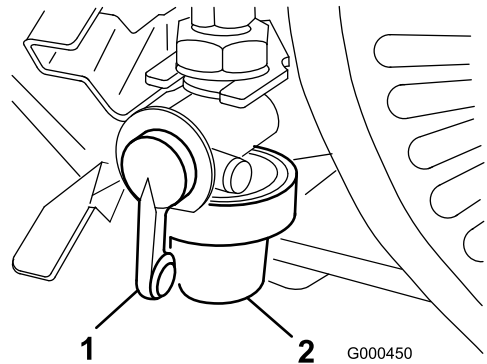

Figure 25
- Close the fuel shut off valve and unscrew the bowl from the filter body (Figure 25).